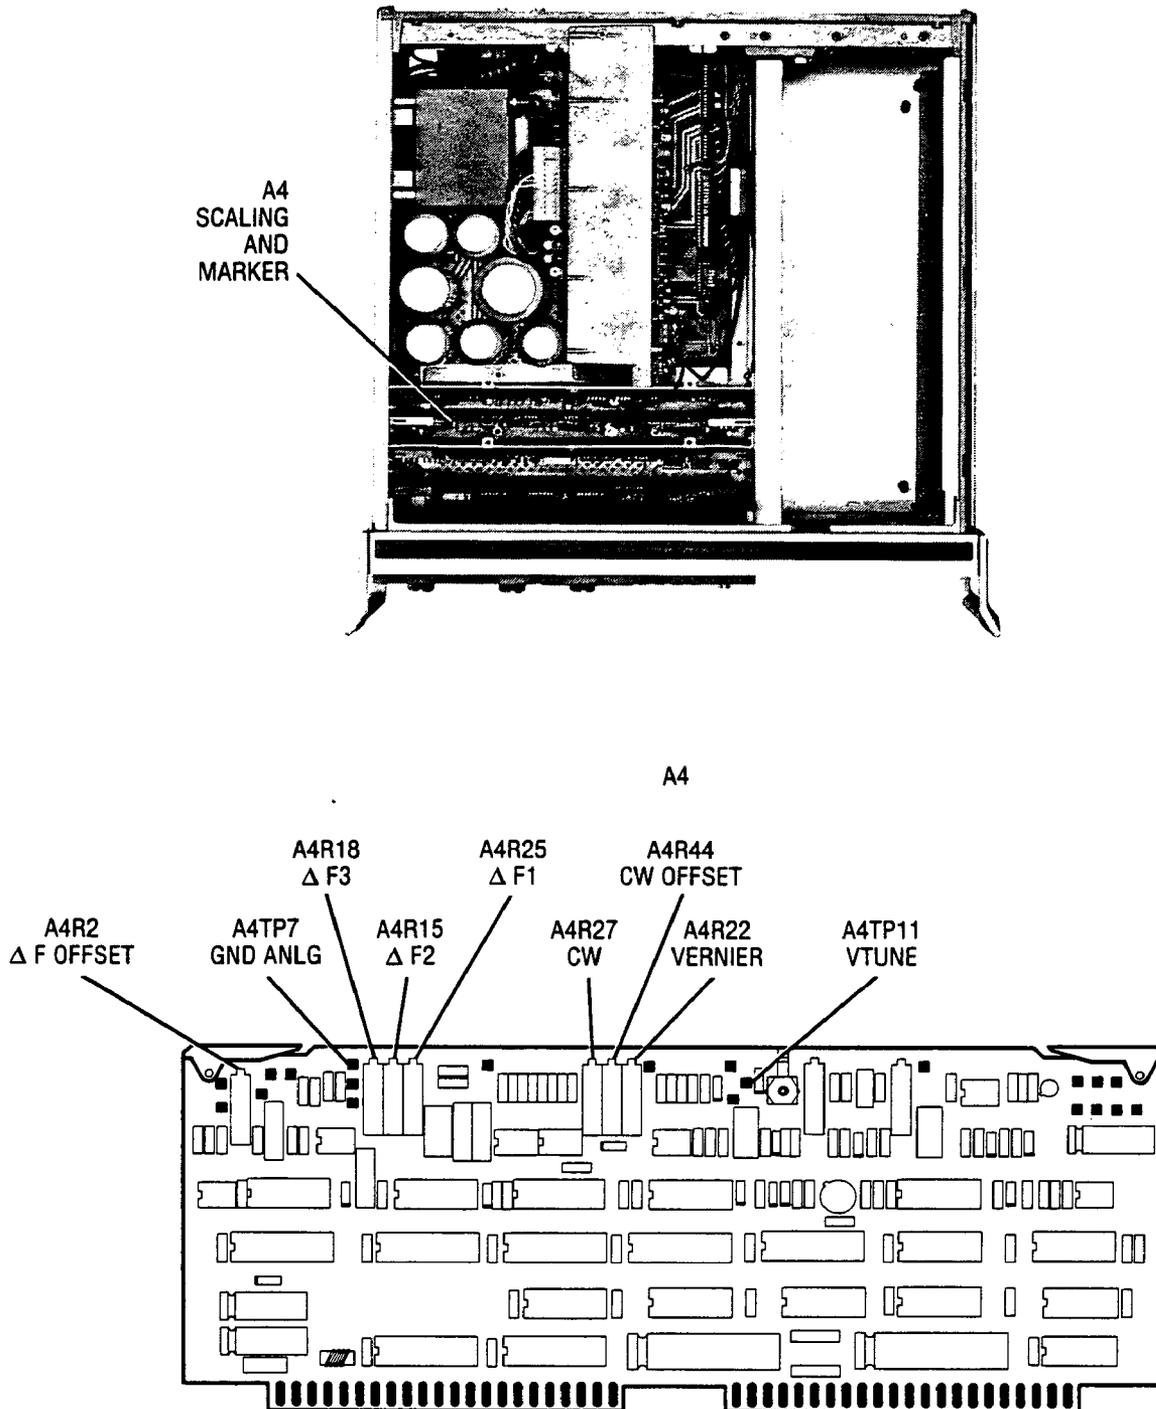

Figure 5-15. Location of Frequency Control Adjustments.
7. Adjust A4R44 (CW OFFSET) for a DVM reading of -0.20508 ± 0.00002 VDC. Refer to Figure 5-15 for adjustment location.
13. Adjust A4R27 (CW) for a DVM reading of 10.2000 ± 0.0001 VDC.